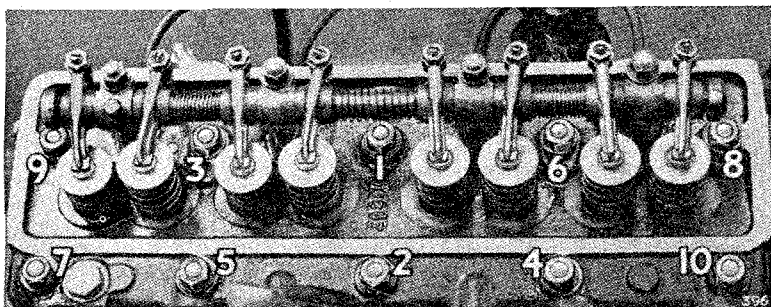

Fig. 15. Order of tightening cylinder head nuts.
Once the cylinder head has been removed it is important that the crankshaft is not rotated unless the cylinder sleeves are firmly clamped down against their seatings. This can be accomplished by using two tubes and washers fitted over the cylinder head studs marked 4 and 5, Fig. 15, to overlap the adjoining cylinder liners, each being secured with a cylinder head nut. If this precaution is not observed the sleeves may rise, with consequent risk of water leaking into the crankcase after assembly. On removal of the head and withdrawal of the push rods, the passage ways in the block leading to the camshaft and thence to the crankcase and sump must be sealed off with a clean rag or masking tape. The same applies to the rocker shaft oilway, both in the head and the block, to prevent the entry of carbon particles which could do serious harm to the engine.
5. When replacing the cylinder head nuts, tighten them gradually in the sequence shown in Fig. 15, in order to produce an even pressure on the gasket and prevent undue strain in the cylinder head casting. **It will be necessary to recheck the nut tightness when cold to 100-105 lb. ft.**
After the first 1,000 miles (1,600 km.) the cylinder head nuts should be checked for tightness, with engine hot, in the order shown in Fig. 15.